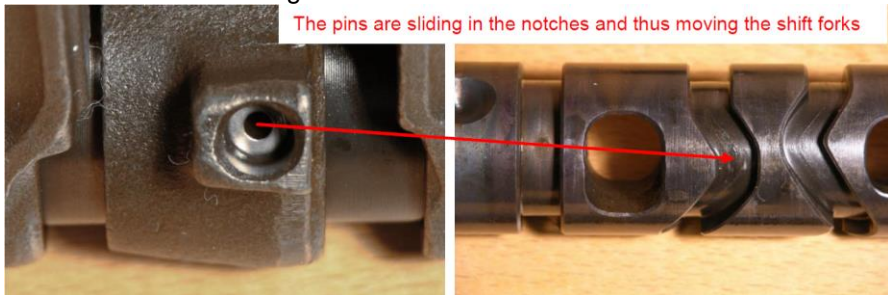

Figure 2-40
In the guide grooves of the shift cam, guide pins (item 12 in figure 2-38) are engaged with one end, while the other end is engaged in bores of the shift forks as shown in figure 2-40.